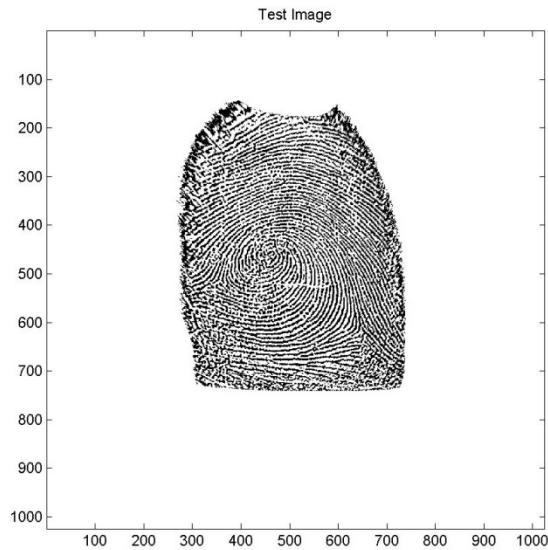
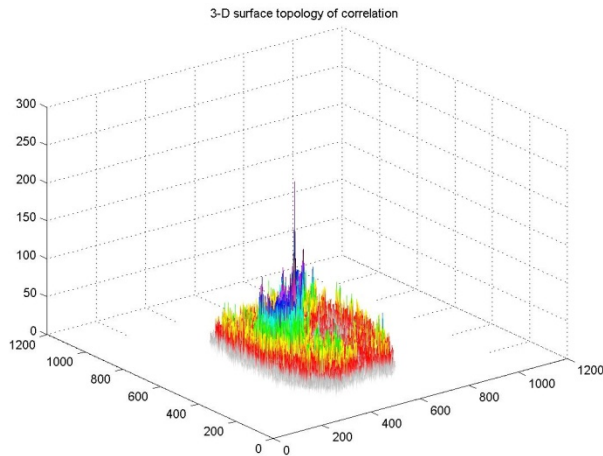

Figure 3: Test image is input to the matching system.
Figure 6: 3-D visualization of correlation response.
- The correlation is commonly viewed in 3-Dimensions as shown in Fig. 6.
- Perform the steps 1 through 6 but with a non-stationary colored noise image added to a 3x3 augmentation of the test image in Fig. 3. Adjust the size of the crop so that at the worst response, the peak is still visible when displayed as in Fig. 6.
print -djpeg figure6